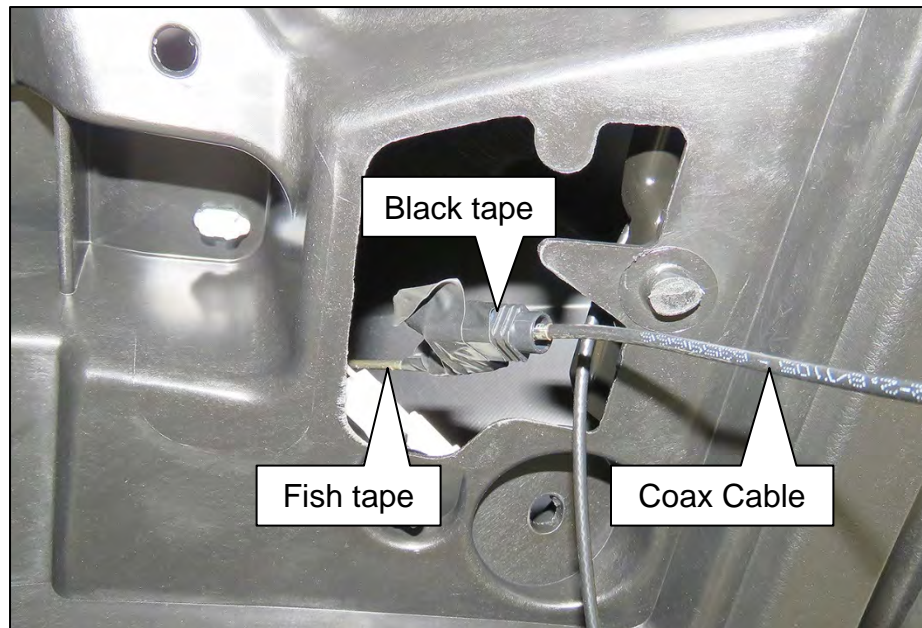

Figure 28
35. Insert the fish tape near the Rear View Camera and guide to the opening shown in Figure 28.
36. Attach the Coax Cable to the fish tape with black tape (Figure 28).